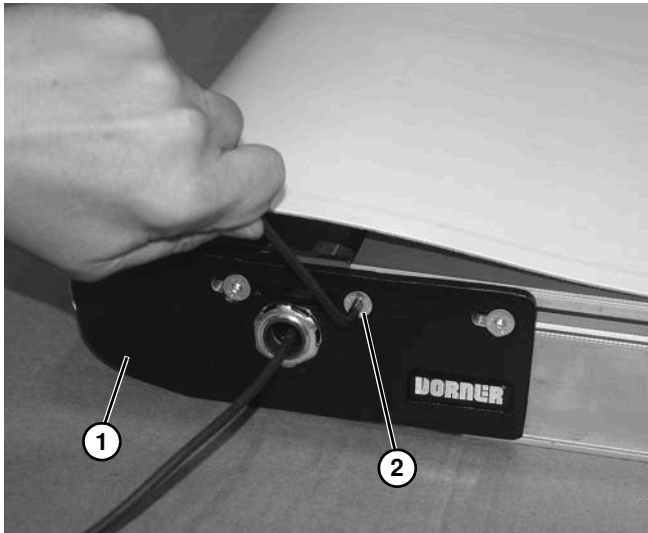

Figure 47
- c. On iDrive end of the conveyor, push in head plate assembly (**Figure 47, item 1**):
- Remove middle screw (**Figure 47, item 2**) from iDrive head plate (**Figure 47, item 1**) on each side of conveyor.